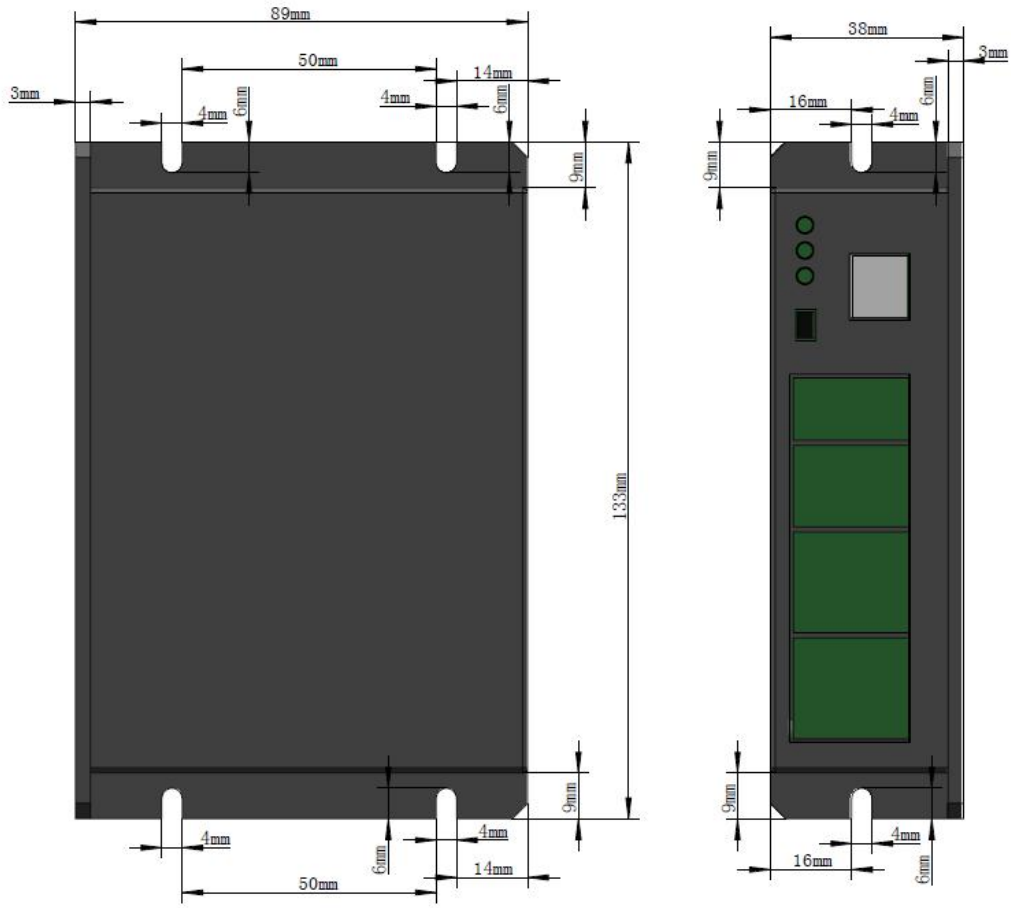

Figure 1.1 Non-metal distance controller
- Non-metal distance controller LFS-ANM-T43-V2, as shown in Figure 1.1.
The laser displacement sensor adopts the principle of laser reflection ranging. The bottom of the sensor is the laser transmitting window and the laser receiving window. The distance between the laser transmitting window and the focal plane is 100mm, which is changed according to the different sensor models. Suppose the distance of the selected sensor is 100mm. The center moment of the sensor is 100mm, and the detection range is ± 35 mm. The wavelength of the laser emitted by the sensor is 655nm, as shown in Figure 1.1. Do not stare into beam.